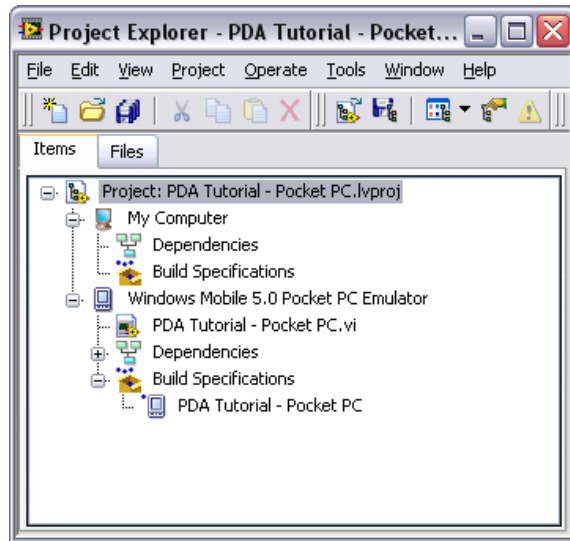

Figure 6. Project Explorer Window
6. Click the **OK** button. The build specification you just created appears in the **Project Explorer** window under the PDA target as shown in Figure 6.